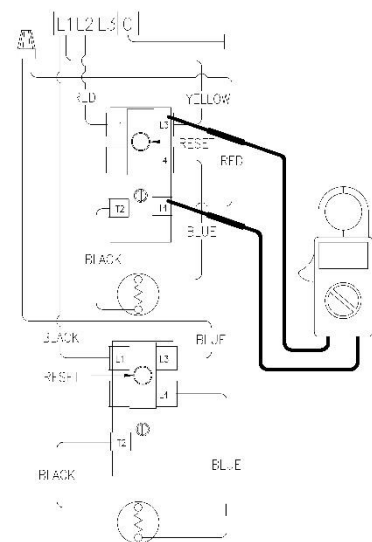

Figure 20
6. Check voltage across terminals L3 & T4 of upper thermostat (see Figure 20).